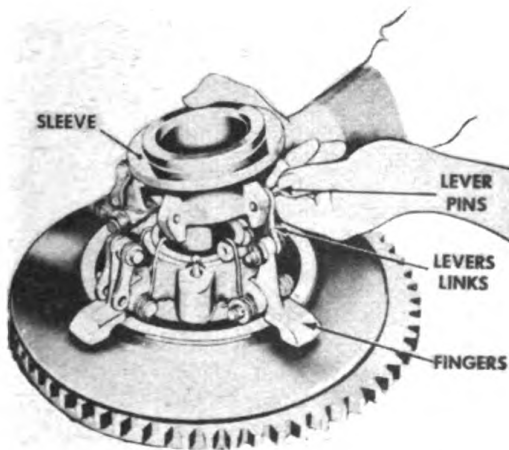

Figure 313. Removing Sleeve Assembly.
B. Slip the snap ring off the link lever pins. Remove the cotter key and washer as shown in Figure 313. Remove the sleeve.